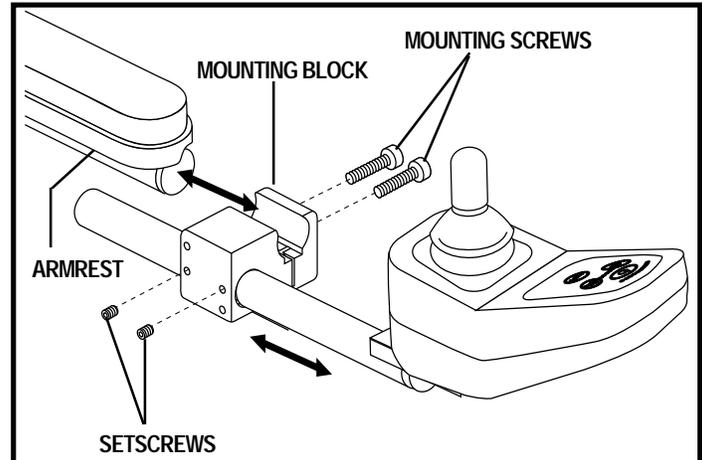

Figure 15. Controller Mounting Block (FLIGHT Shown)
4. Loosen the mounting screws. See figure 15.